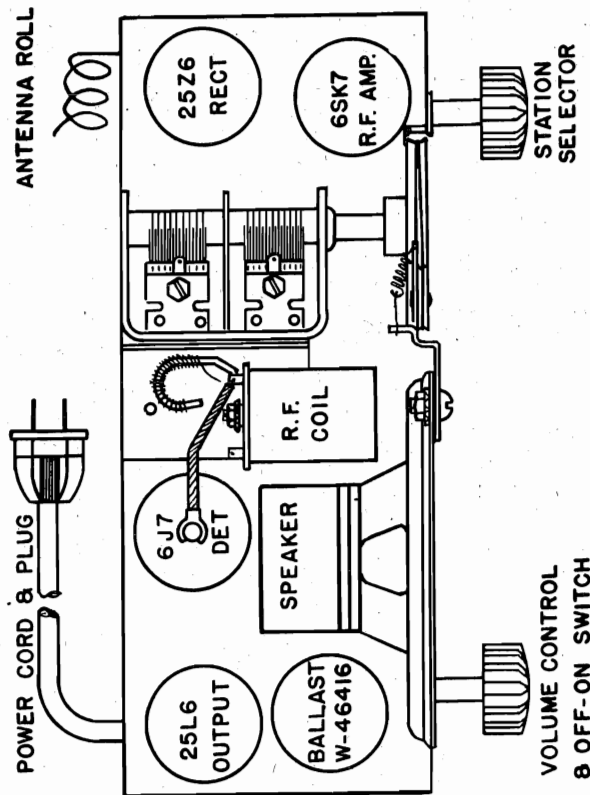

Fig. 2—Top View Chassis Model 10
- Set the station selector so that the plates of the condenser gang are completely out of mesh and turn the volume control to the right (ON).
- Adjust the 2nd I-F trimmer condenser, item 7, located in top of 2nd I-F assy., (Fig. 2) for maximum reading on the output meter.
- Adjust the 1st I-F trimmer condensers, item 6, located on top of 1st I-F assy., (Fig. 2) for maximum output.